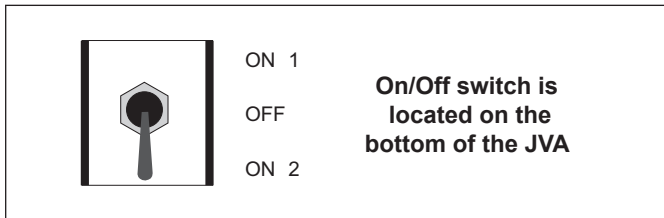

Figure 19. JVA Synchronization, Toggle
1. Flip the toggle switch located on the bottom of the actuator to the ON 2 position (see Figure 19). The toggle positions are marked on the actuator cover.